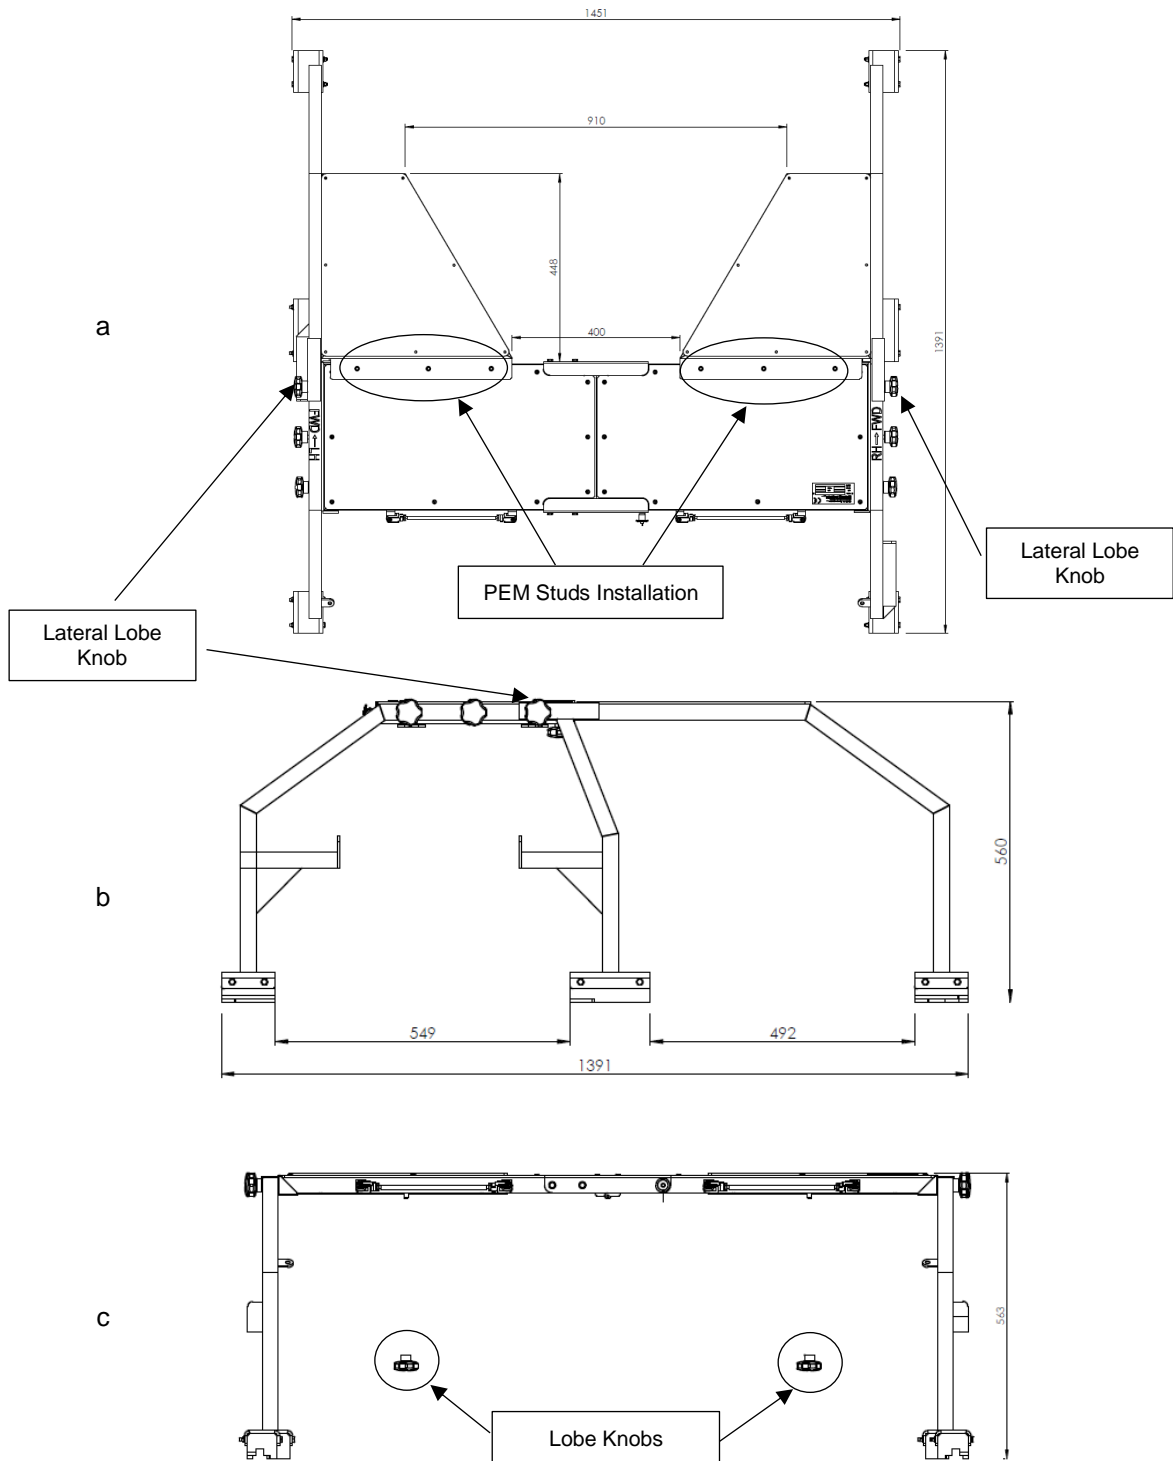

Figure 9-1 – Installation Scheme
The 3G1200G02331 Kit Upper Deck Maintenance Step OPLS, is used during the Main Rotor area maintenance, Ref. Figure 9-1.
2. Insert the HFHS-0616-32 PEM Studs, into the dedicated holes on the Upper Deck Maintenance Step; Ref Figure 9-1- a,
3. Fix the PEM Studs using the Lobe Knobs: Ref. Figure 9-1 – c.
4. Fix the structures using the lateral Lobe Knobs, present on the PN 3G1200G02231, as showed in the Ref. Figure 9-1 – a, Figure 9-1 – b.